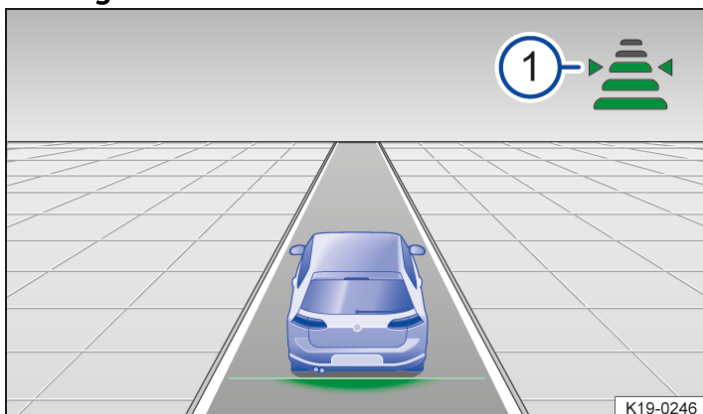

Fig. 1 On the instrument cluster display: set distance ①, ACC is controlling distance (illustration).
The instrument cluster display shows the chosen setting → Fig. 1 ①. Please observe any country-specific regulations for the minimum distance.